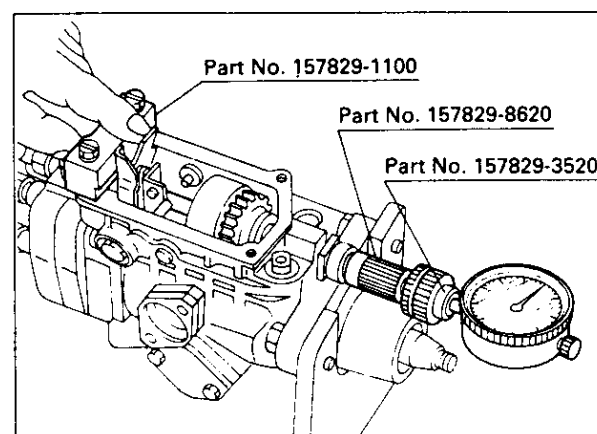

Fig. 18
(3) Install the block gauge (Part No. 157829-1100) as shown in Fig. 18. Insert the pin of the plunger lift stroke measuring device (Part No. 157829-3520) into the measuring device shaft, already fixed in step b-(2). Secure the dial using the nut. To set the dial's zero point, slightly push the dial so that the dial reads between 2 to 3 mm (the tip of the pin touches the rear side of the closing plug.) Ensure the governor sleeve is pushed toward the flyweight side. Hold the corrector lever against the block gauge, and push the tension lever against the stopper pin, press-fitted into the pump housing. Next, push the sleeve until the start lever contacts the tension lever, and will not move any further. Next, read the dial and select the proper sized closing plug, to ensure dimension "MS" is as specified.